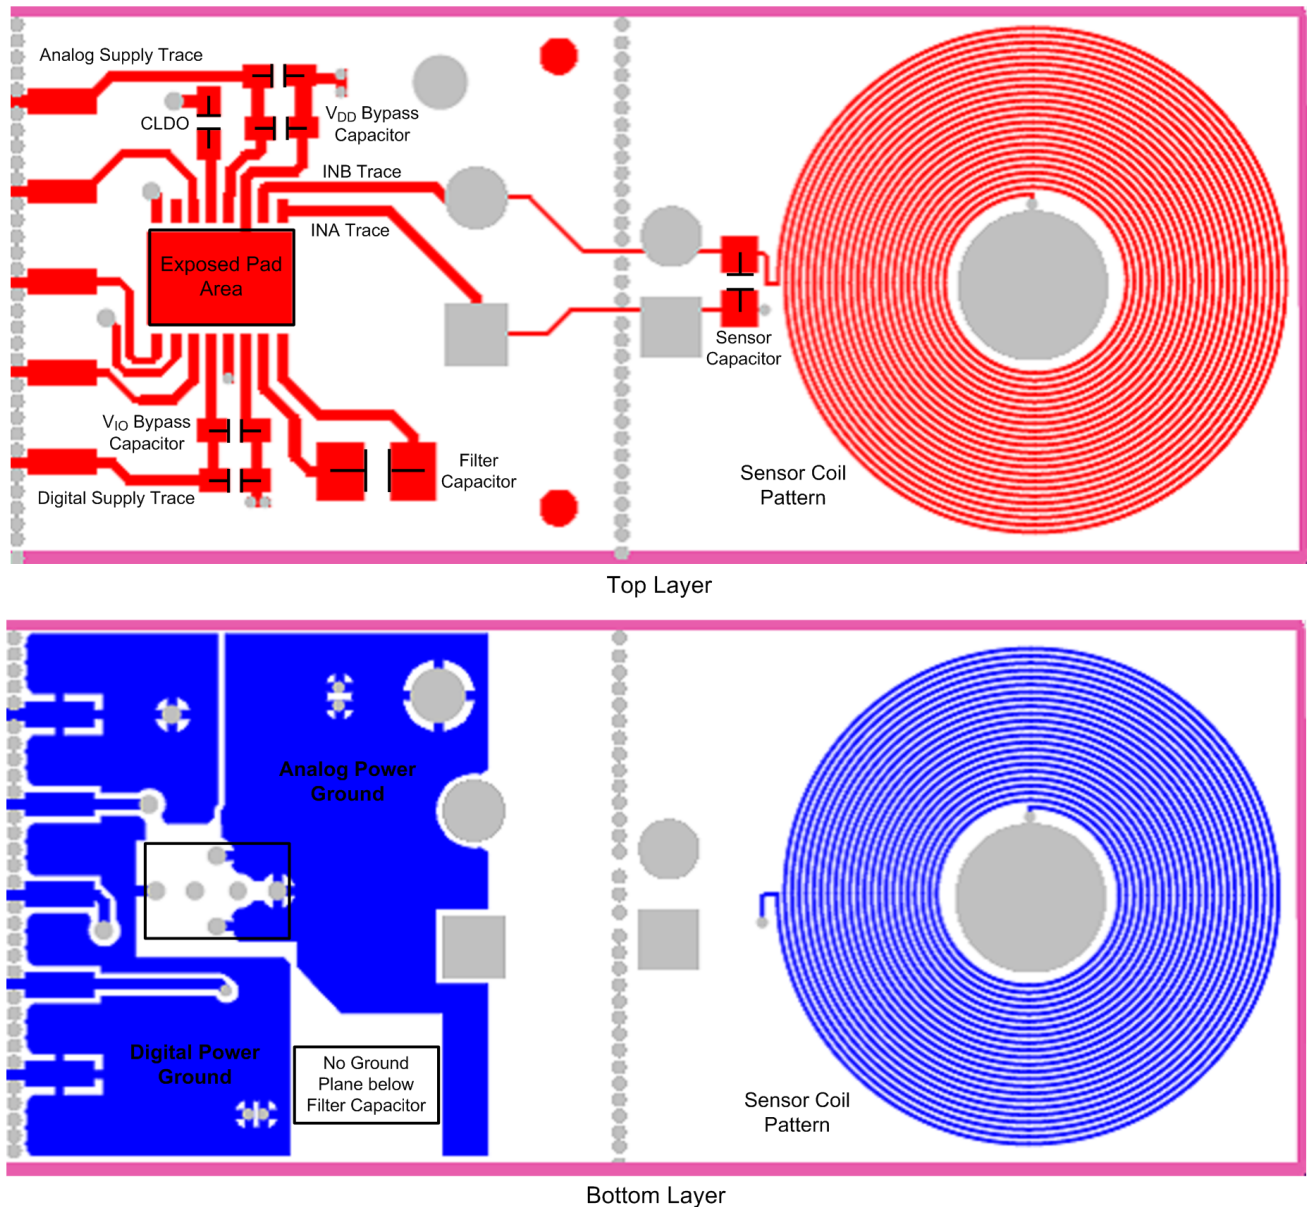

Figure 21. LDC1000 Board Layout
- The optimum placement is closest to the VDD/VIO and GND/DGND pins of the device. Take care to minimize the loop area formed by the bypass capacitor connection, the VDD/VIO pin, and the GND/DGND pin of the IC. See Figure 21 for a PCB layout example.
- Use of separate ground planes for GND and DGND is recommended with a star connection. See Figure 21 for a PCB layout example.